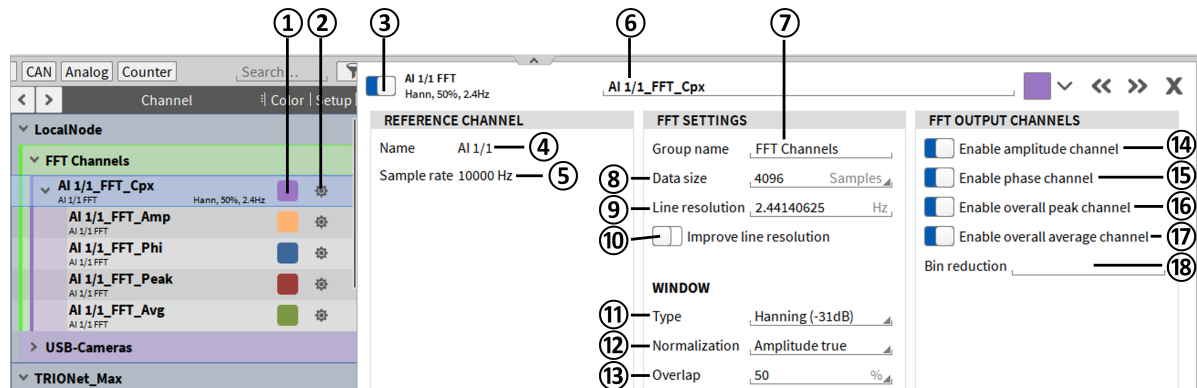

Fig. 7.87: Complex FFT channel setup - overview
- This channel is not calculated automatically but must be selected manually in the Channel Setup of the complex spectrum Channel *Channel_Name_Cpx* after creating the FFT channel (see ⑭ in Fig. 7.87).